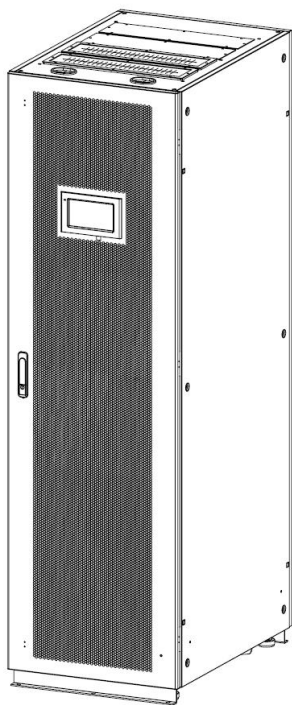
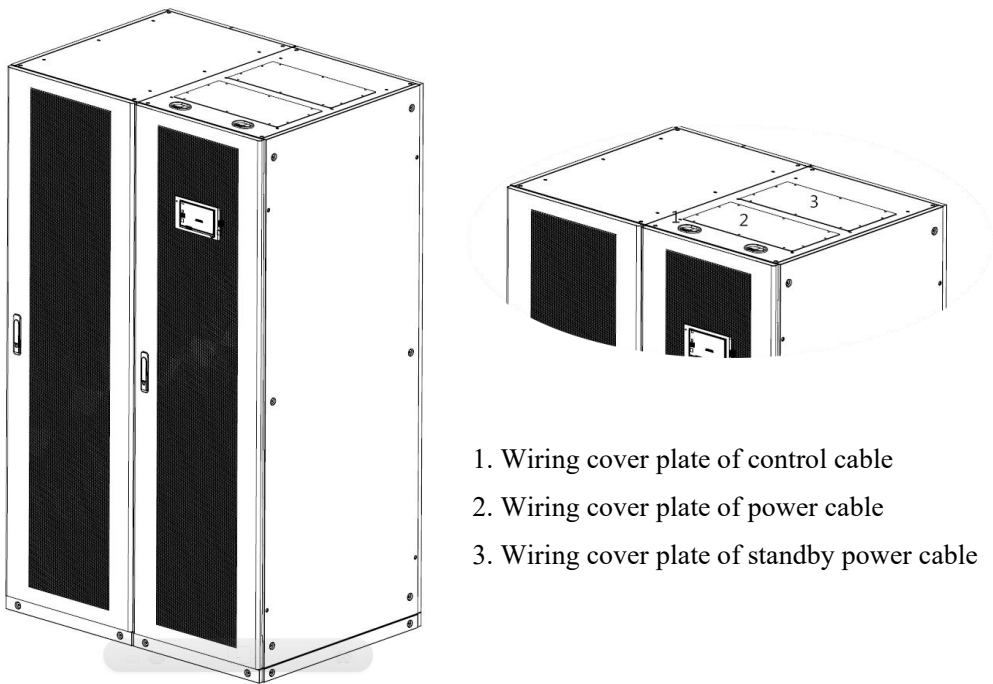

Fig. 2-14 Removal of top wiring cover plate (300kVA)
Fig. 2-15 Removal of front power distribution cover and top wiring board (400kVA)
- ✧ Step 1: Open the front door of the bypass cabinet, remove the front power distribution cover and top wiring board of the bypass cabinet, as shown in Fig. 2-14 and Fig. 2-15 for each model.